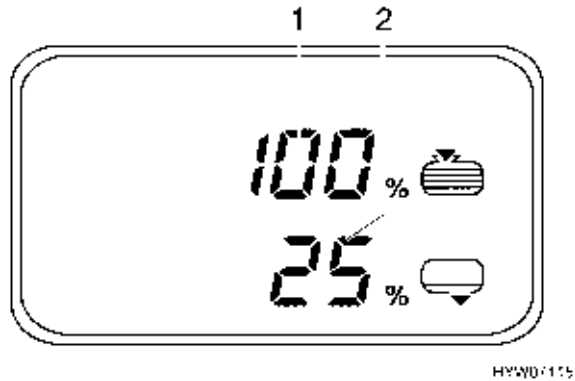

Fig. 112 Tank-menu
- Press key (Fig. 108,9): the tank-menu (Fig. 112) appears.
- Filling level of the fresh water tank (Fig. 112,1)
- Filling level of the waste water tank (Fig. 112,2)
The tank-menu appears and the corresponding symbol flashes when the fresh water tank is empty or the waste water tank is full. Additionally, the alarm symbol and the corresponding percentage indicator flash (Fig. 112,1 or 2).